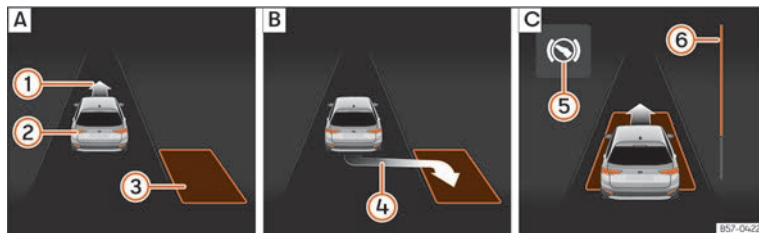
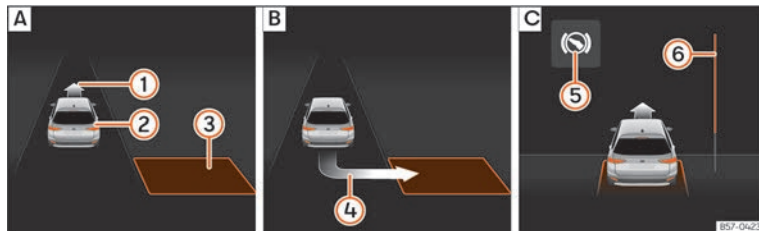

Fig. 141 On the instrument cluster display: parallel parking. **A:** Finding a parking space **B:** Parking position. **C:** Manoeuvring.
Fig. 142 On the instrument cluster display: angle parking. **A:** Finding a parking space **B:** Parking position. **C:** Manoeuvring.
- Look at the instrument cluster screen to see if the space has been detected as “appropriate” and if the correct position for parking has been reached >>> Fig. 141 **B** or >>> Fig. 142 **B**. The space is considered “appropriate” if the instrument cluster display shows the parking indication ④.
- Reverse until the continuous ParkPilot signal sounds; **OR:** reverse until the indication to move forward appears on the instrument panel display >>> Fig. 141 [C] or >>> Fig. 142 [C]; **OR:** reverse until the **Park Assist finished** message appears on the instrument cluster display. The progress bar ⑥ indicates the distance to cover.
- Move forward until the continuous ParkPilot signal sounds; **OR:** move forward until the reverse indication appears on the instrument panel display. The Park Assist system steers the vehicle forward and back until it centres it in the space >>> Fig. 141 [C] or >>> Fig. 142 [C].
The progress bar >>> Fig. 141 ⑥ and >>> Fig. 142 ⑥ on the instrument cluster display shows the relative distance to be covered as a symbol. The greater the distance, the fuller the progress